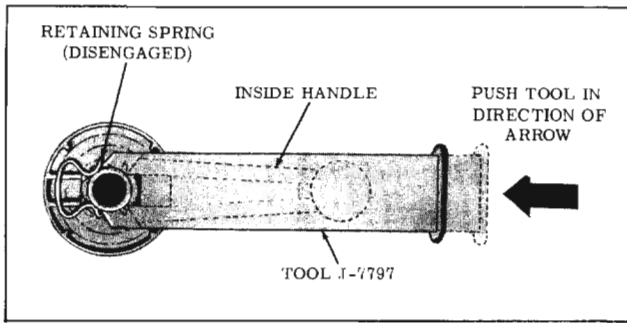

Fig. 16-15 Disengaging Inside Handle Spring
1. Depress door trim assembly at handle sufficiently to install tool J-7797 between handle and bearing plate. (Fig. 16-15)